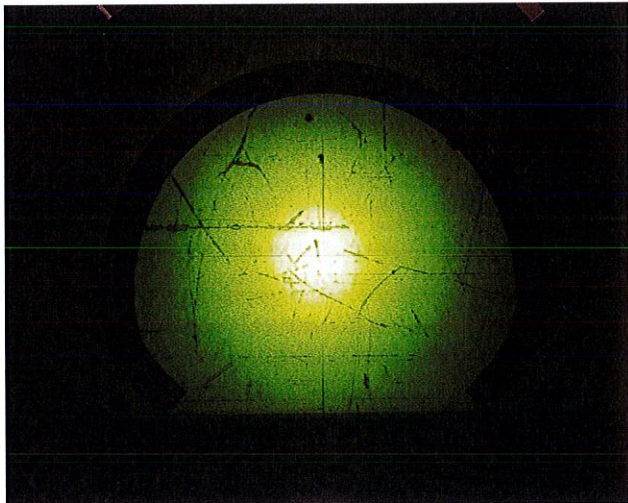
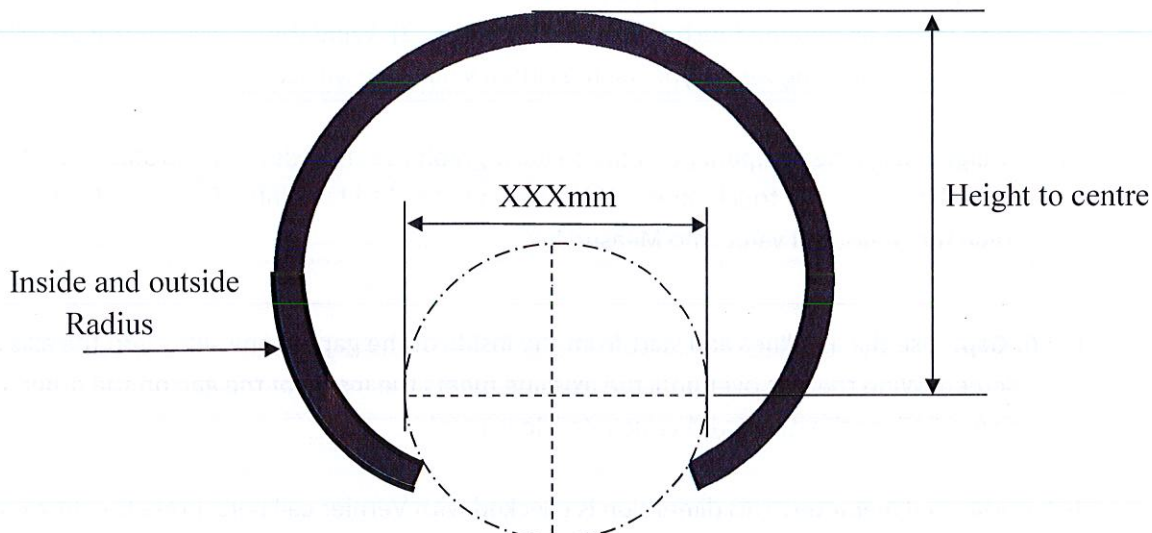
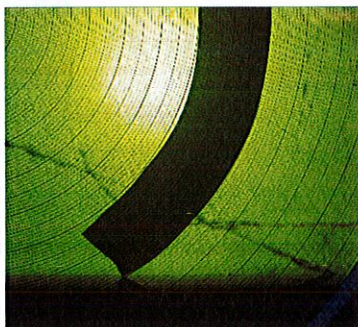

Figure 4. Component in place flat on the glass.
Figure 7. Dimensions to be checked
Figure 9. This is the trace placed over the component to measure the Radius.
6.2.1. Set up for measurement. Place the component flat on the glass stage of the shadow graph projector, as shown in figure 4. Ensure the magnification is set to 10x. Use the correct trace (identified by drawing number) and place it over the display to check that the component is evenly shaped.
6.2.3. Left and right radius. Place the component on the shadow graph as shown in figure 4. Check the dimension shown 'Radius' in figure 7. Use the radius trace to measure one side of the part at a time, see figure 9.
6.2.4. Height to centre. Use the radius trace to find the XXXmm dimension (figure 7) found on the drawing. Zero the 'Y' axis on the touch screen display (figure 2). Wind the 'Y' axis control up to the top of the part, as shown in figure 7. Type the measured value into MeasurLink.